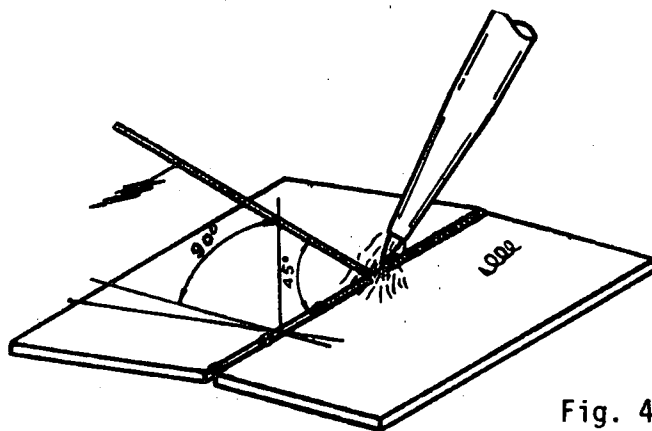

Fig. 4
- b) Incline the rod as seen in figure 4.
- c) Advance making a semi-circular movement with the tip (fig. 4).